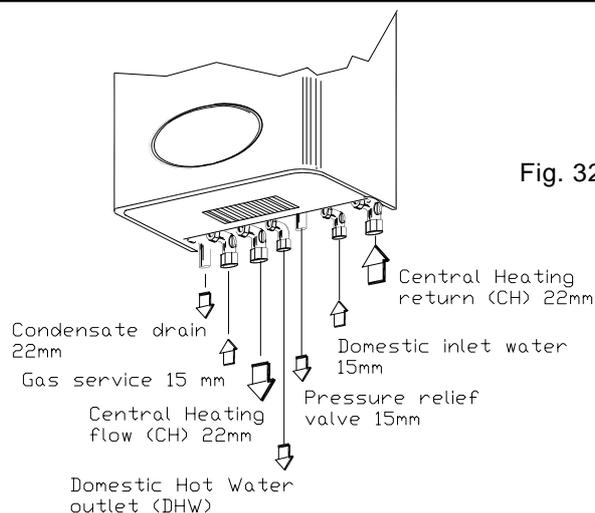

Fig. 32
Remove plastic caps from boiler connection and fit valves as per fig. 32 using washers provided.
5.9 GAS CONNECTION (fig. 32).
5.10 CENTRAL HEATING CONNECTION (fig. 32).
5.11 DOMESTIC HOT WATER (fig. 32)
5.12.2 The condensate drain connection is on the left of Gas service cock (Fig.32).